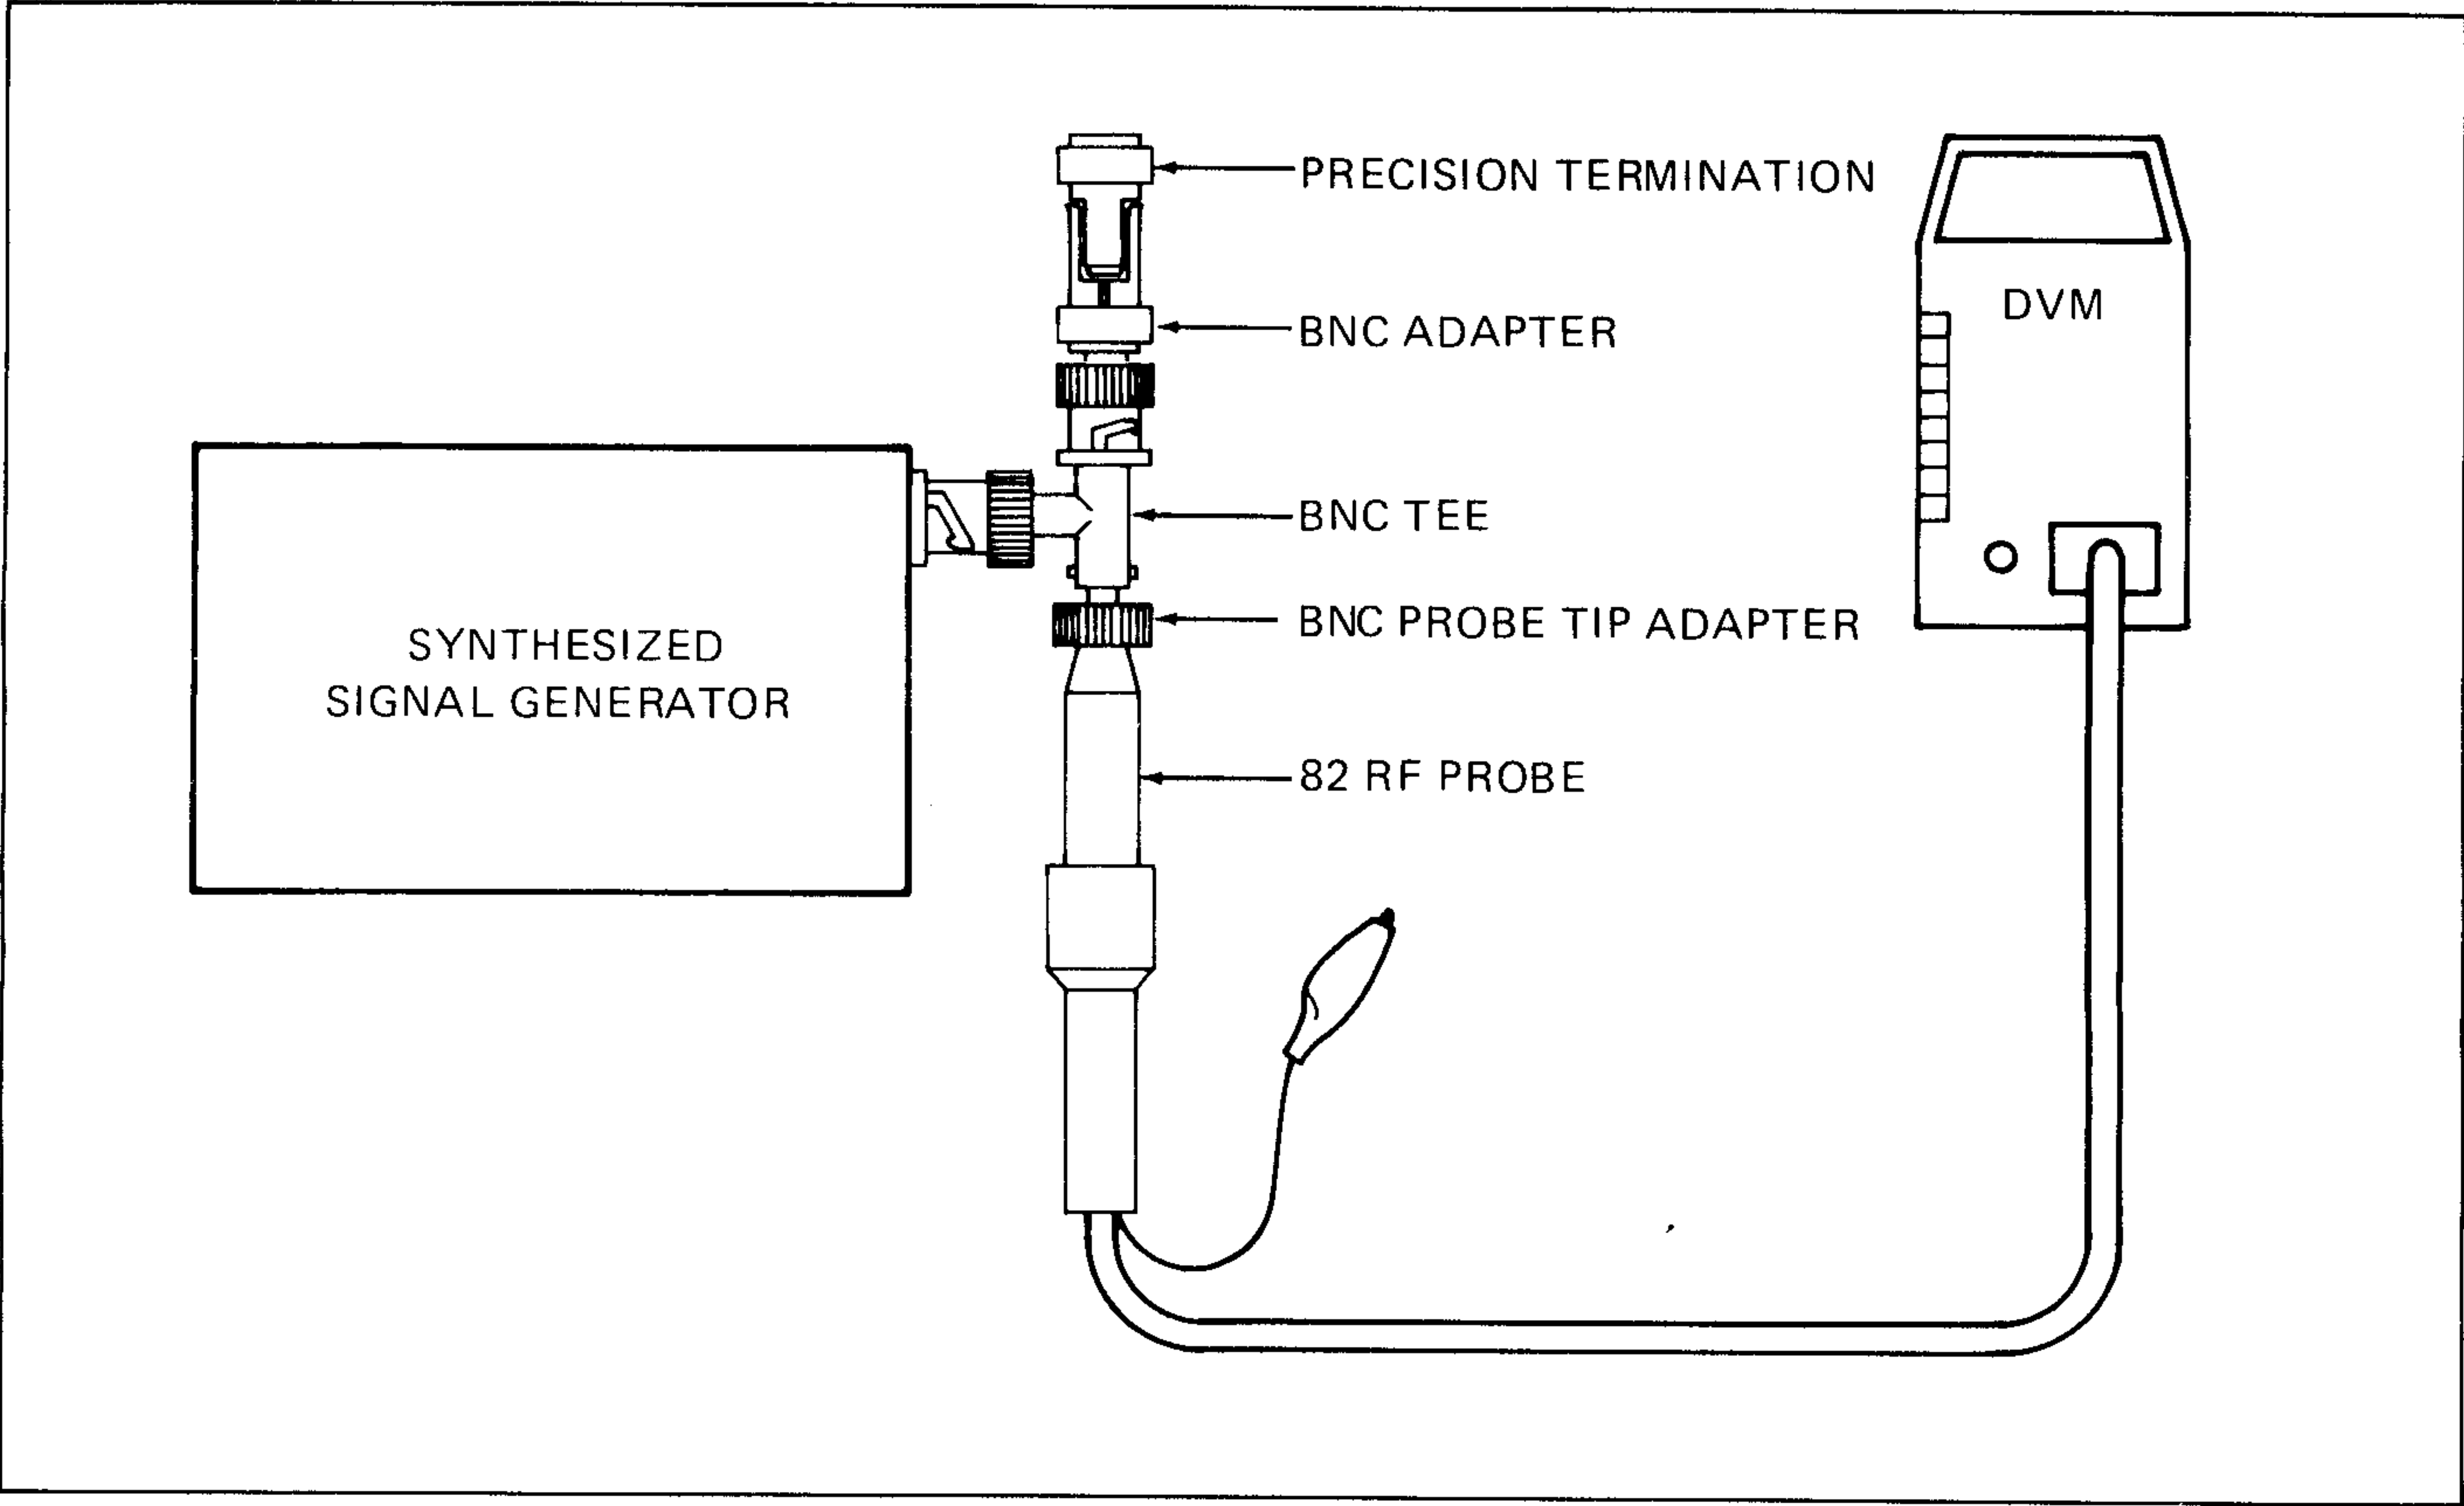

Figure 3. Equipment Connections for Calibration
1. Complete the test set-up shown in Figure 3.